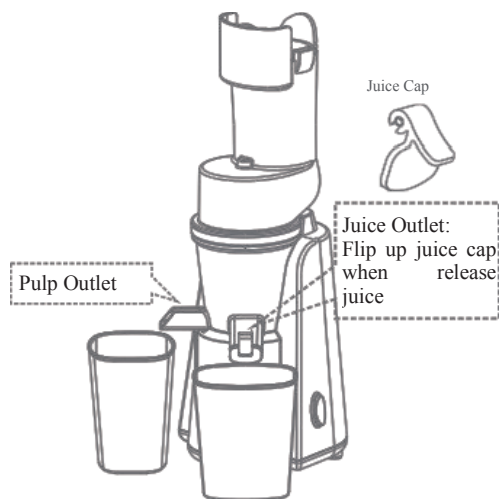

Fig.1
2. Assembly all the accessories of the appliance. Put juice cup under juice outlet and put pulp cup under pulp outlet. (fig.1) Insert the power plug.